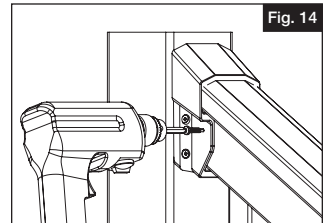

Fig. 14
- a. Center rail on post. Then, using a  $\frac{5}{32}$ " drill bit, pre-drill the first hole through the top rail bracket, vinyl post jacket, and into wood post (or plastic spacer of post install kit) (Fig 14).
- b. Pre-drill one side (outside of the stair rail installation) of the top rail bracket with  $\frac{5}{32}$ " drill bit. Hole should be oriented as shown (Fig 14). Drive #10 x 1" pan head square drive screw through bracket and rail.